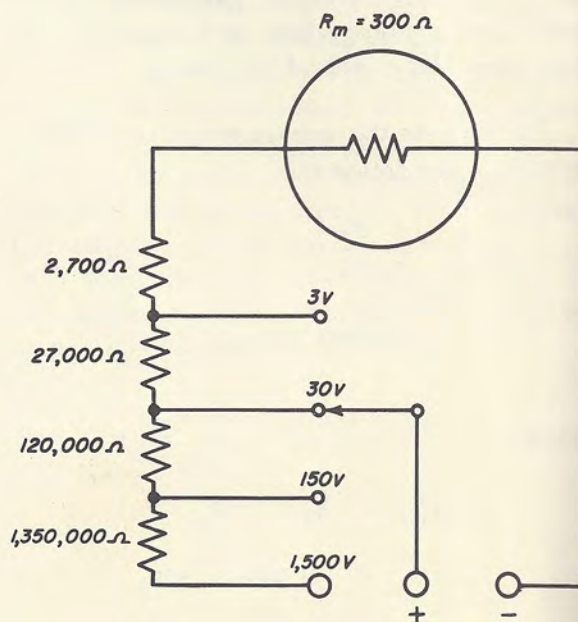

Fig. 11-10
**High-Voltage Ranges.** When voltage ranges above about 1,000 volts are made part of a meter, it is common practice to keep these high potentials away from the selector switch. This is done to prevent possible *arcing over* in the switch. (You know that when electrical pressure becomes great enough, electrons actually jump across from one terminal to another. We sometimes call this arcing over.) In such cases, as shown in Fig. 11-10, the positive test lead connects to a separate jack or terminal post that is connected directly to the high-voltage multiplier to take advantage of the air space between the post and switch lug.